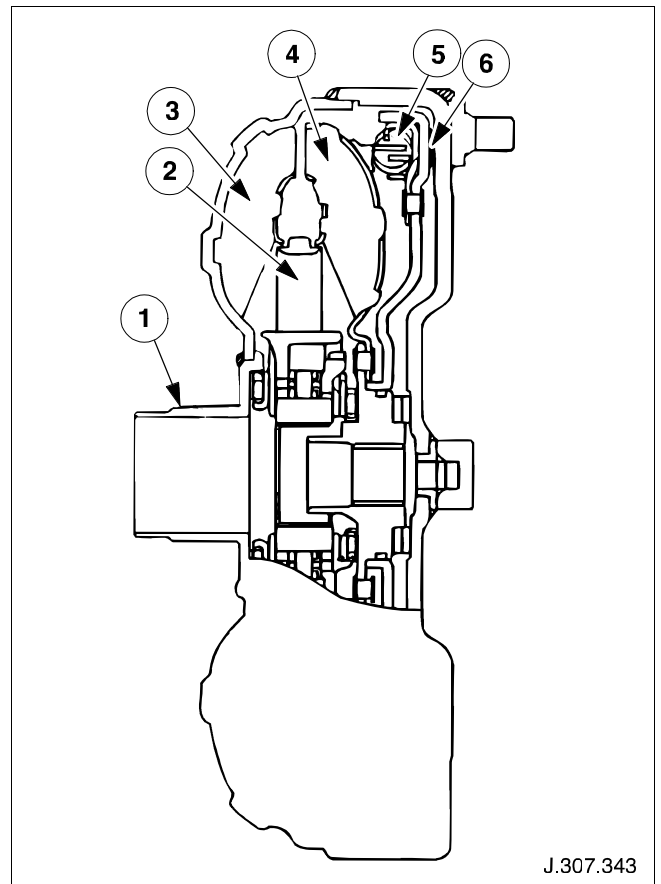

Fig. 36 Torque converter (with lock-up mechanism)
- The 3 symmetrical elements (impeller, turbine, and stator) are shown; refer to **Fig. 36**. Note the symmetrical arrangement of the 3 elements.